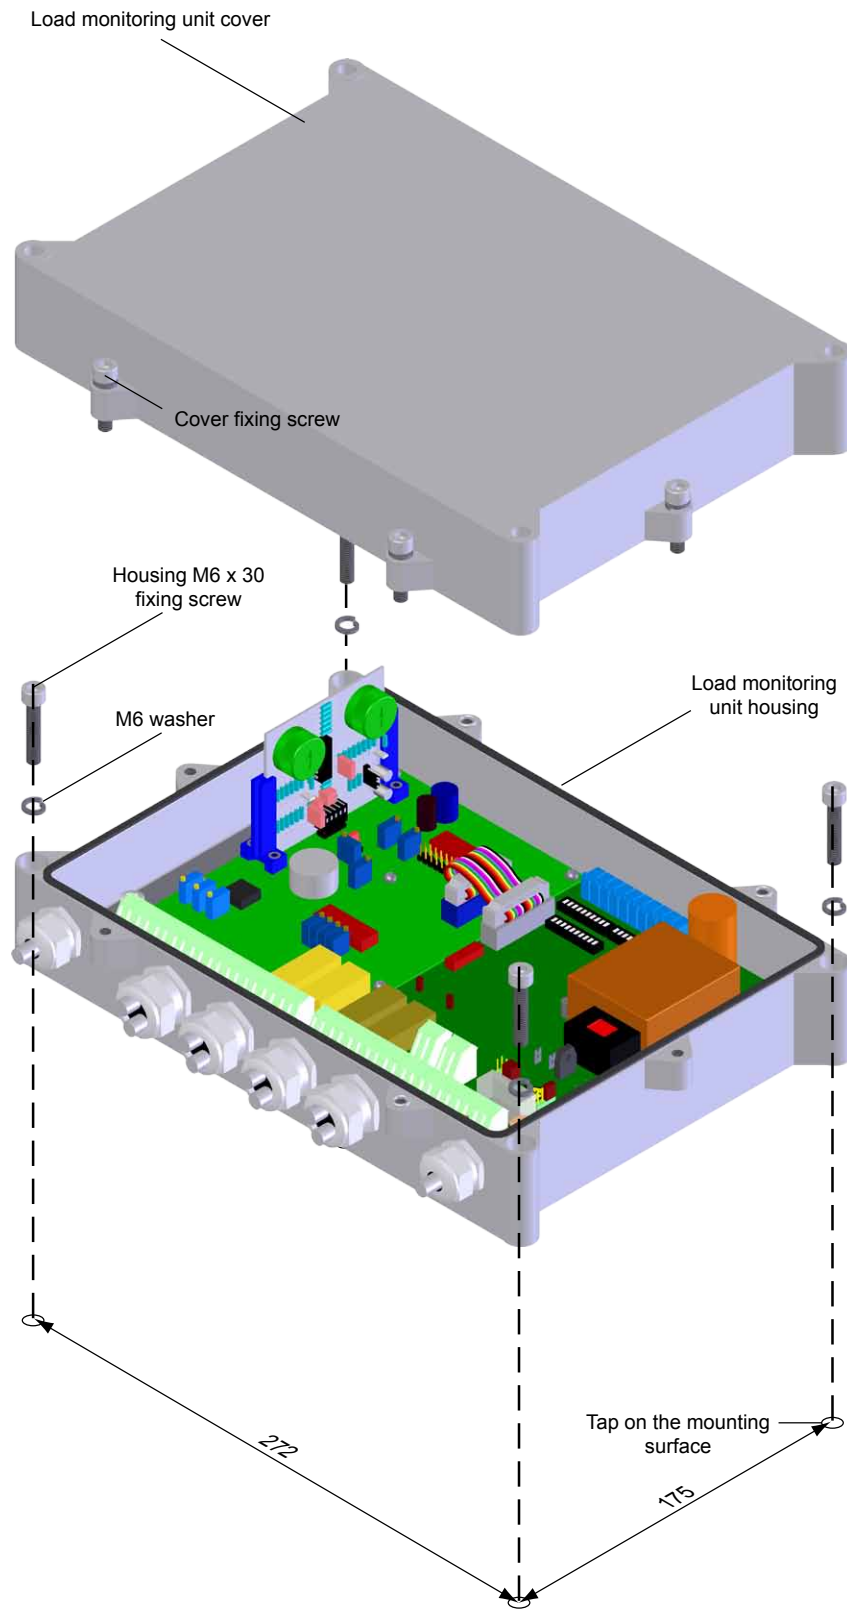

Fig. 2-1 Installation of the LMU 216 load monitoring unit
4. Remove the cover of the load monitoring housing. The LMU 216 cover is fixed with 6 screws (see *figure 2-1*).